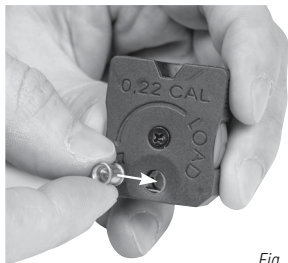

Fig. 5
2. Insert the pellet in forwards(head first) into the first position.(Fig 5)